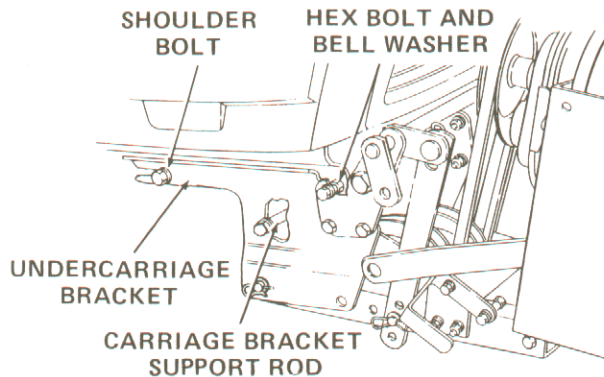

**Figure 18**
10. FOR SUPER GARDEN TRACTORS ONLY, cut 3-1/2 inches off left end of pivot axle assembly with a hacksaw as shown in Figure 18. Removal of this part of the pivot axle assembly prevents interference with chute crank.